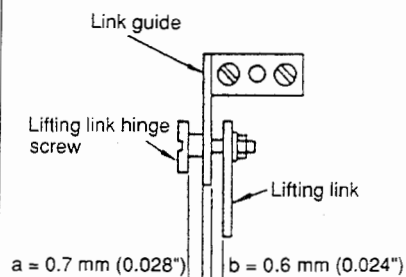

Fig. 5-19-7
- 6) Clearance a of 0.7 mm (0.028") should be provided between the lifting link and the link guide and clearance b of 0.6 mm (0.024") should be provided between the hinge screw of the lifting link and the link guide. (Fig. 5-19-7)
- 6 ), 11) Loosen setscrews ③ in the link support plate, and adjust clearance a between the link guide and the lifting link and clearance b between the link guide and the hinge setscrew of the lifting link to the values given below. Then tighten the setscrews. (Fig. 5-19-7)